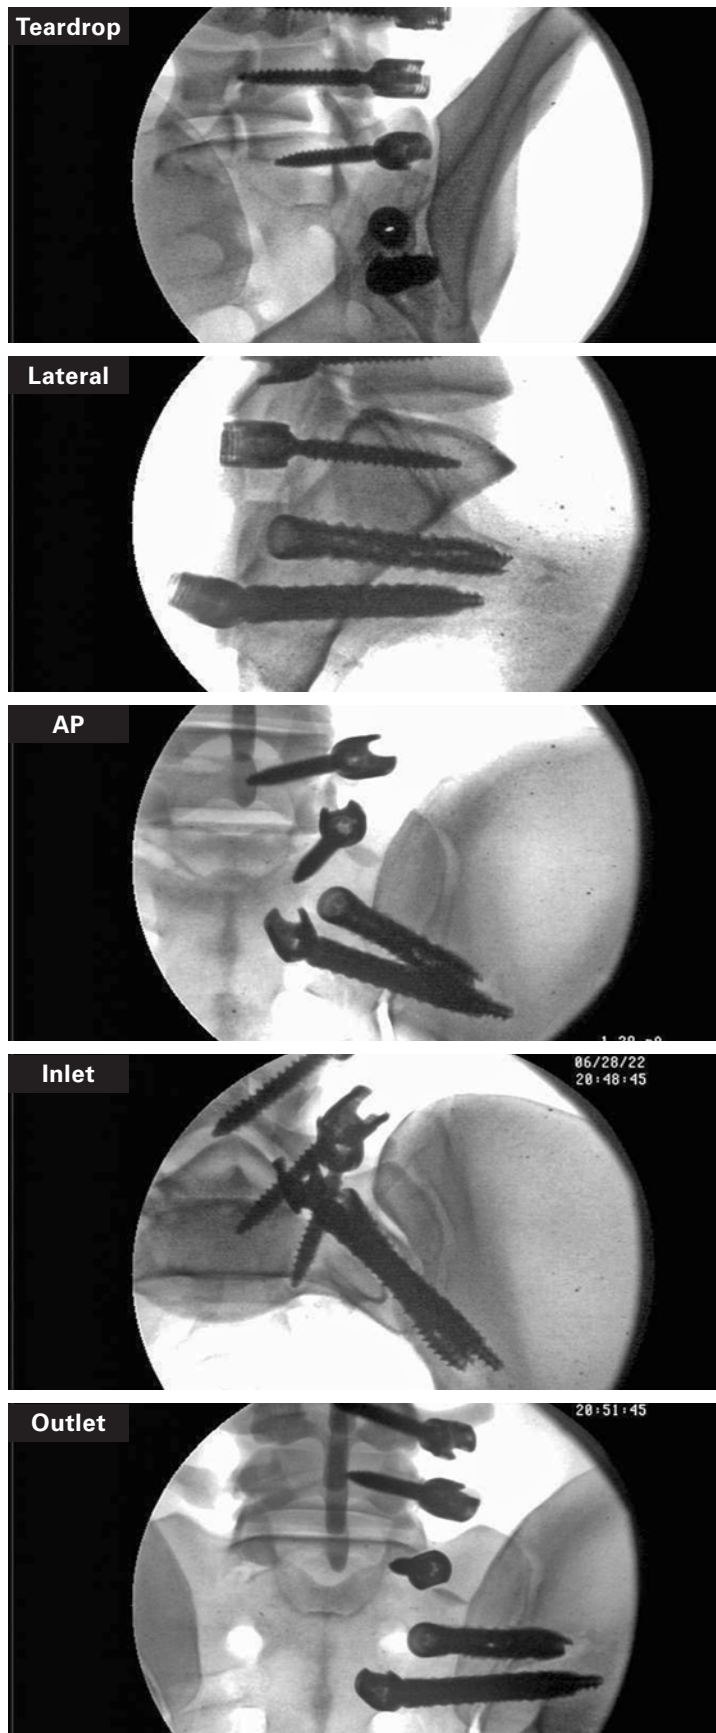

Figure 18 Final implant placement in all fluoro views
- ▶ Confirm placement with fluoroscopic views (**Fig. 18**)